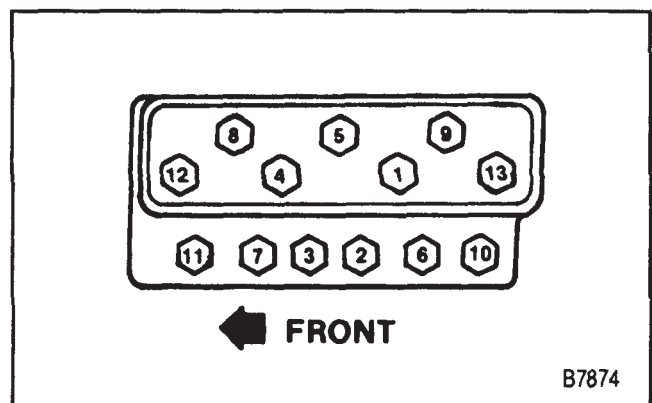

Figure 22—Cylinder Head Bolt Tightening Sequence
### Install or Connect (Figure 22)
- Cylinder head bolts in three steps using the sequence shown in figure 22.